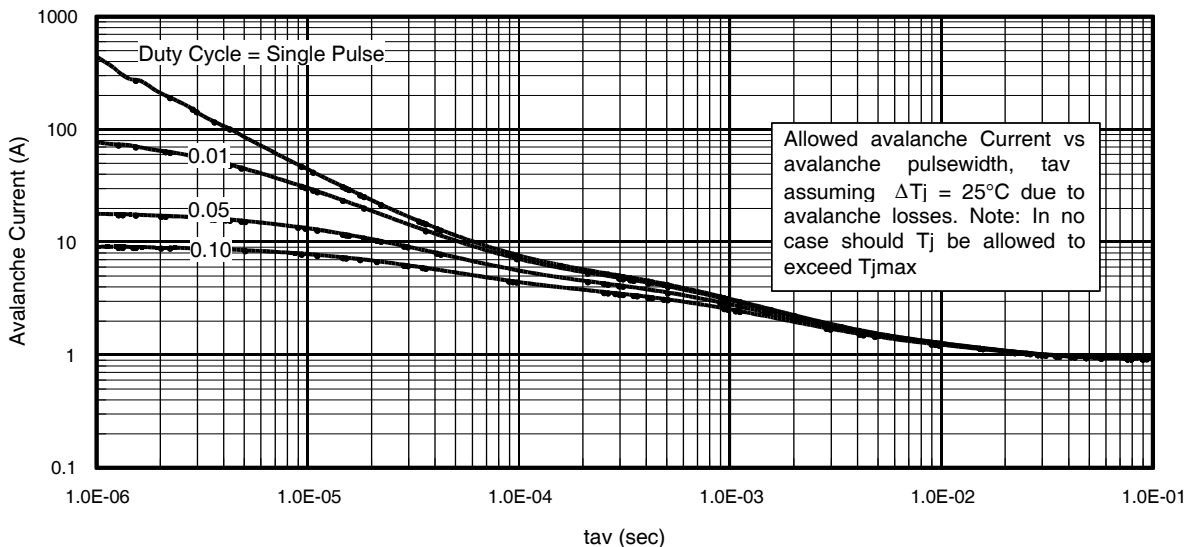

Fig 15. Typical Avalanche Current Vs.Pulsewidth
Notes on Repetitive Avalanche Curves , Figures 15, 16:
7.  $\Delta T$  = Allowable rise in junction temperature, not to exceed  $T_{jmax}$  (assumed as 25°C in Figure 15, 16).